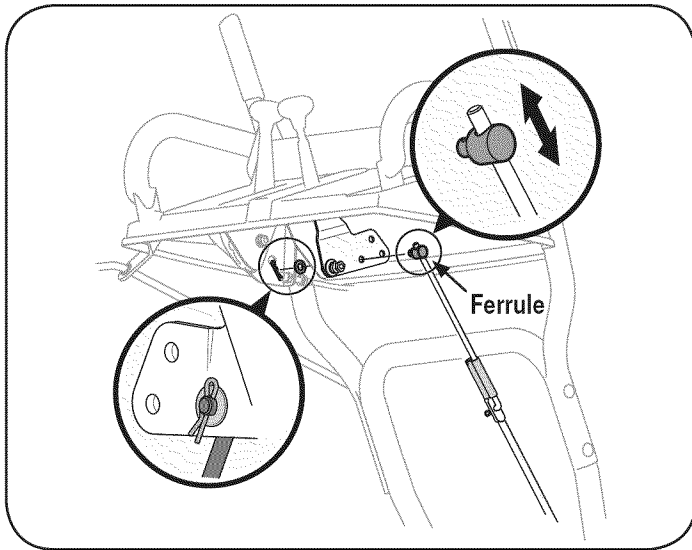

Figure 23
1. Looking underneath the handle panel, note which of the three holes in the speed selector lever the ferrule is inserted into. Also note the direction of insertion. Then remove the internal cotter pin and flat washer from the ferrule and withdraw the ferrule from the speed selector lever. See Figure 23.
2. Place speed selector lever in sixth (6) position or fastest forward speed.
4. As necessary, rotate the ferrule up or down the speed selector rod until the ferrule lines up with the hole from which it was earlier removed. See Figure 23.